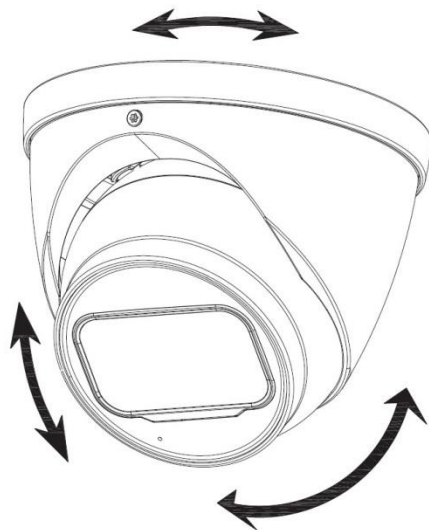

Figure 3-4
- Step 1** Find the mounting template sticker from the accessory pack and stick it to the mounting surface①
- Step 2** Drill screw holes (and the cable outlet hole if it needs to go through the mounting surface) on the mounting surface as indicated on the mounting template, then insert expansion bolts② from the accessory pack in the screw holes.
- Step 3** Loosen the locking screw⑨ with the supplied wrench⑧ and take the pedestal③ off.
- Step 4** Adjust the location of the pedestal③ according to cable outlet requirement (top out or side out), then pull the cable out through mounting surface or the side cable tray. Align the screw holes on the pedestal③ to those on the mounting surface, then put in and fasten the supplied self-tapping screws④ to attach the device⑤ to the mounting surface.
- Step 6** Put the enclosure⑥ back on and adjust the locking screw⑨ to hold it, leave some spaces enough for you to adjust the device⑤. Aim the lens to the ideal angle and adjust the focus until you get clear image (see Figure 3-4) and fasten the locking screw⑨.